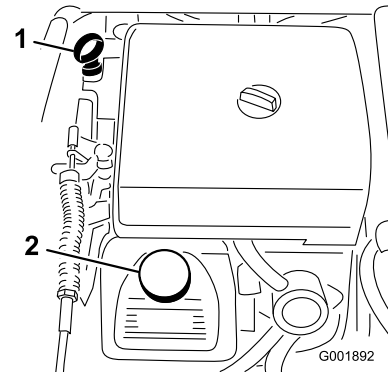

Figure 47
2. Remove the dipstick and wipe it with a clean rag (Figure 47). Insert the dipstick into the tube and make sure it is seated fully. Remove the dipstick and check the oil level.
3. If the oil level is low, remove the filler cap from the valve cover (Figure 47) and pour oil into the opening until the oil level is up to the Full mark on the dipstick. Add the oil slowly and check the level often during this process. Do not overfill.
8. Slowly pour approximately 80% of the specified amount of oil into the oil filler tube (Figure 47).